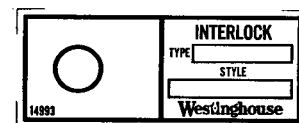

Fig. 5
2. Specify the type of interlock and interlock assembly number, as shown on Pages 1, 2, and 3 also give name plate reading, see Fig. 5.